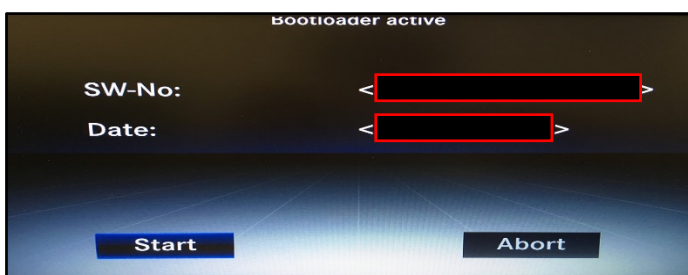

Figure 11
20. The HU will go into 'Bootloader active' mode. The software version number will be shown. (refer to Figure 11).